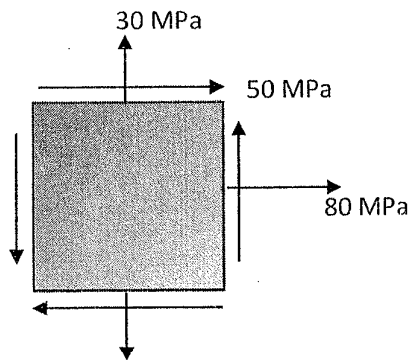

Figure Q1
2. This question paper consists of five (05) questions. Answer all the questions.
**Q1** A machine component is subjected to plane stress. The induced stresses at a point are as shown in Figure Q1:
- (a) Construct Mohr's Circle for the state of stress shown in Fig. Q1. (06 marks)